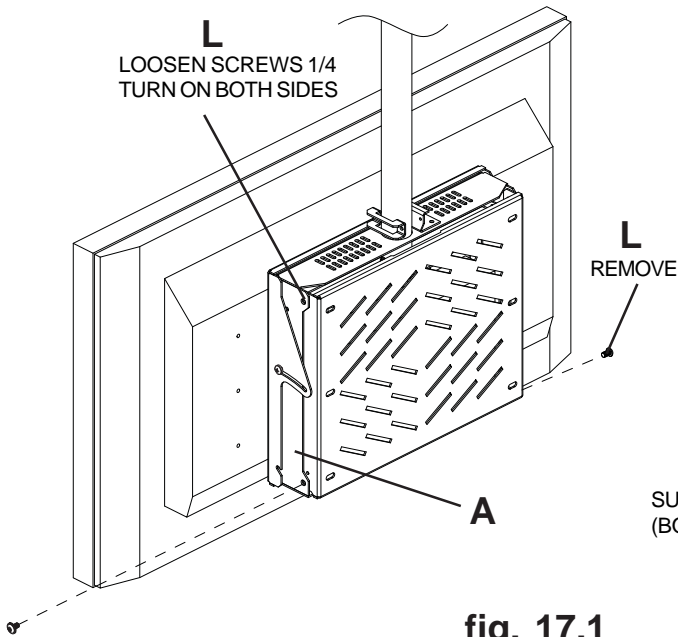
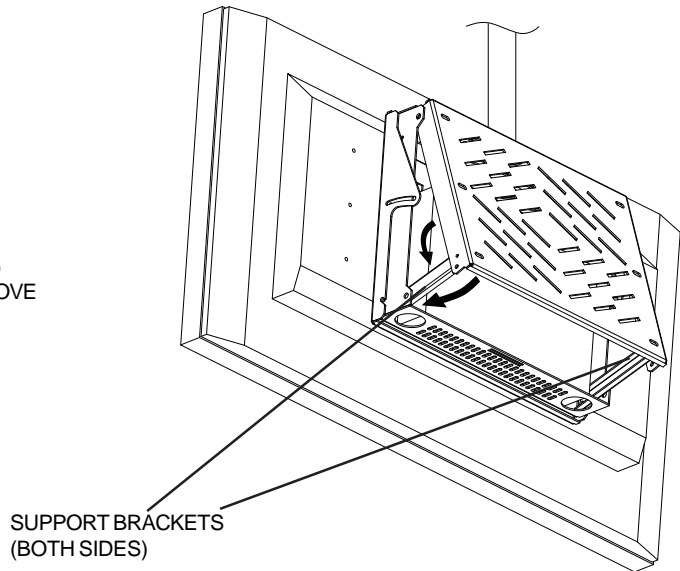

fig. 17.1
fig. 17.2
- 17** Loosen top two M8 x 15 mm socket pin screws (**L**) 1/4 turn and temporarily remove bottom two M8 x 15 mm socket pin screws (**L**) on pc box (**A**) as shown in figure 17.1. Swing screen forward and swing support brackets downward to brace screen in open position as shown in figure 17.2.